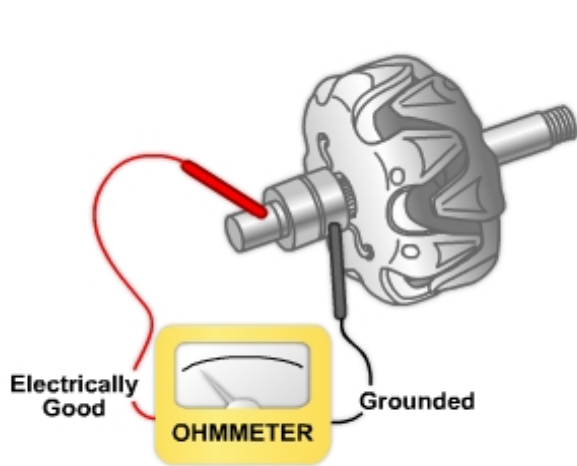

Figure 8-13 — Testing for grounds.
- To check for grounds, connect a test lamp or ohmmeter from one of the slip rings to the rotor shaft (*Figure 8-13*). A low ohmmeter reading or the lighting of the test lamp indicates that the rotor winding is grounded.